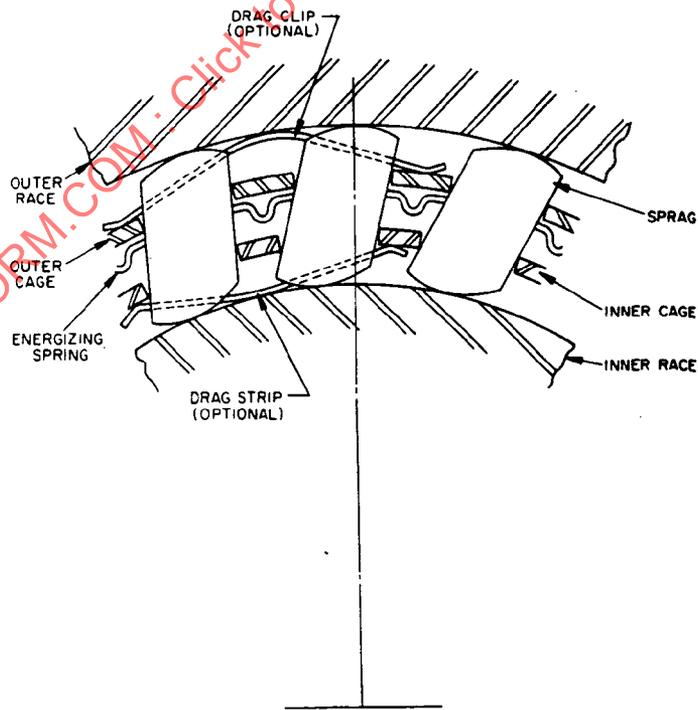

FIGURE 6 - Typical Double-Cage Sprag One-Way Clutch Diagram
- 4.2.1 CAGED SPRAG CLUTCH: A clutch that utilizes one or more cages to space or control the sprag elements (See Figures 6 and 7.)
- 4.3.4 ENERGIZING SPRING: A spring used to actuate the sprags into contact with the inner and outer races. (See Figures 6 through 8.)
- 4.3.5 CAGE: An element primarily used to contain and space the sprags. (See Figures 6 and 7.)
- 4.3.6 DRAG CLIP: An element sometimes used to provide frictional drag between the outer cage and the outer race. (See Figure 6.)
- 4.3.7 DRAG STRIP: An element sometimes used to provide frictional drag between the inner cage and the inner race. (See Figure 6.)